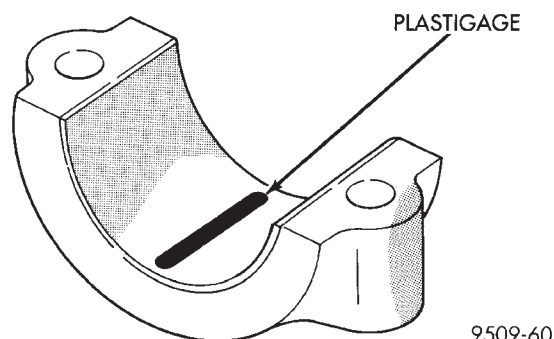
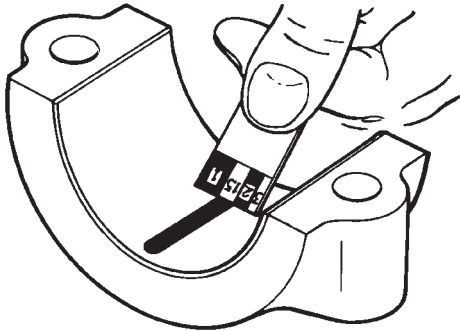

Fig. 1 Plastigage Placed in Lower Shell
Fig. 2 Clearance Measurement
(1) Remove oil film from surface to be checked. Plastigage is soluble in oil.
(2) Place a piece of Plastigage across the entire width of the bearing shell in the cap approximately 6.35 mm (1/4 in.) off center and away from the oil holes (Fig. 1). (In addition, suspected areas can be checked by placing the Plastigage in the suspected area). Torque the bearing cap bolts of the bearing being checked to the proper specifications.
(3) Remove the bearing cap and compare the width of the flattened Plastigage (Fig. 2) with the metric scale provided on the package. Locate the band closest to the same width. This band shows the amount of clearance in thousandths of a millimeter. Differences in readings between the ends indicate the amount of taper present. Record all readings taken. Refer to Engine Specifications. **Plastigage generally is accompanied by two scales. One scale is in inches, the other is a metric scale.**
(1) Rotate the crankshaft until the connecting rod to be checked is at the bottom of its stroke.
(2) Remove oil film from surface to be checked. Plastigage is soluble in oil.
(3) Place a piece of Plastigage across the entire width of the bearing shell in the bearing cap approximately 6.35 mm (1/4 in.) off center and away from the oil hole (Fig. 1). In addition, suspect areas can be checked by placing plastigage in the suspect area.
(4) Assemble the rod cap with Plastigage in place. Tighten the rod cap to the specified torque. **Do not rotate the crankshaft while assembling the cap or the Plastigage may be smeared, giving inaccurate results.**
(5) Remove the bearing cap and compare the width of the flattened Plastigage (Fig. 2) with the scale provided on the package. Locate the band closest to the same width. This band indicates the amount of oil clearance. Differences in readings between the ends indicate the amount of taper present. Record all readings taken. Refer to Engine Specifications. **Plastigage generally is accompanied by two scales. One scale is in inches, the other is a metric scale. If the bearing clearance exceeds 0.076 mm (0.003 in.) replace bearing.**